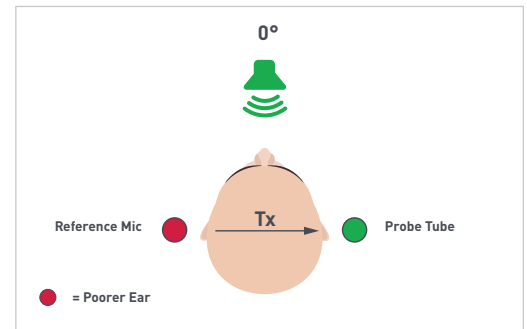

Figure 6
**Step Three:** Measure the REAR at 0° azimuth: [Fig. 6]